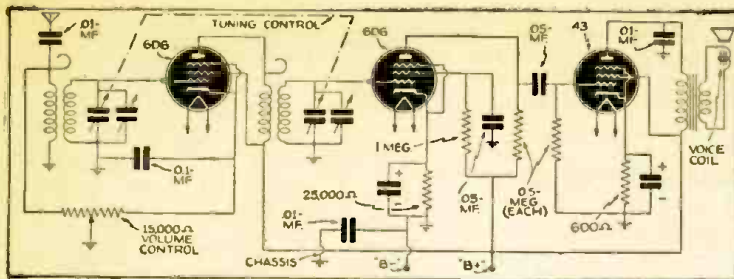

Fig. 1. Typical circuit of a midget A.C.-D.C. receiver.
In Fig. 1 is shown the typical signal circuit arrangement of an A.C.-D.C. T.R.F. receiver. There are several peculiarities which should be noted; these are: (1) the chassis may not be an electrical part of the circuit, in which case the ground symbols simply indicate that the parts so marked are connected together; (2) the screen-grid of the R.F. tube gets the same potential as the plate; (3) an external ground connection is not used because one side of the power line (which connects to the receiver circuits) is grounded; (4) the small coils connected to the primary R.F. coil windings provide capacitive coupling in addition to the usual inductive, primary/secondary coupling.